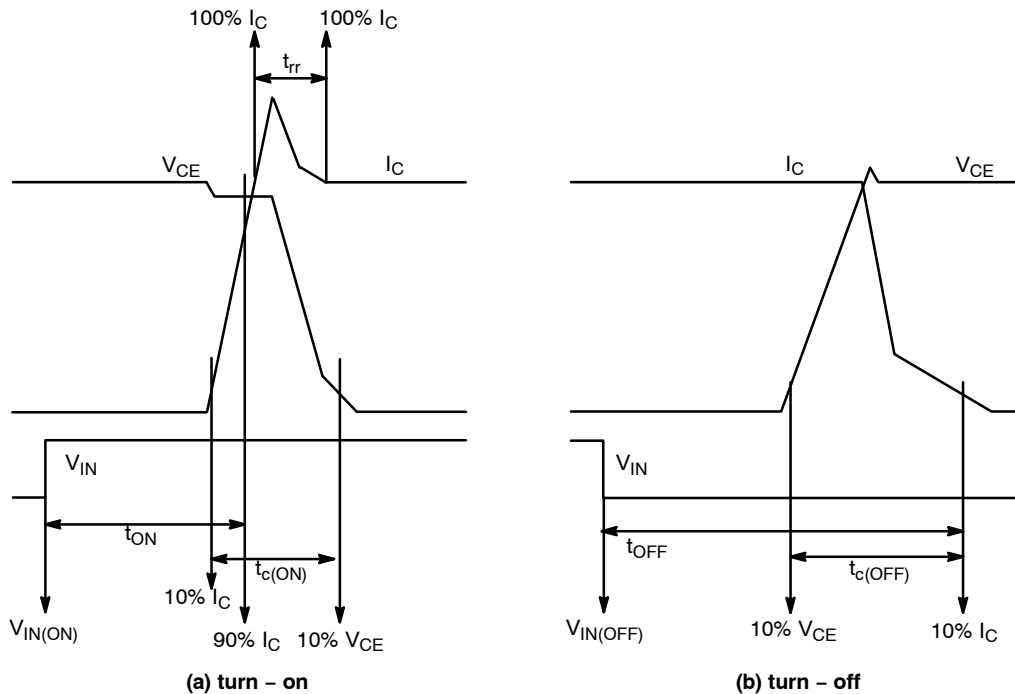

Figure 3. Switching Time Definition
7.  $t_{ON}$  and  $t_{OFF}$  include the propagation delay time of the internal drive IC.  $t_{C(ON)}$  and  $t_{C(OFF)}$  are the switching time of IGBT itself under the given gate driving condition internally. For the detailed information see Figure 3.